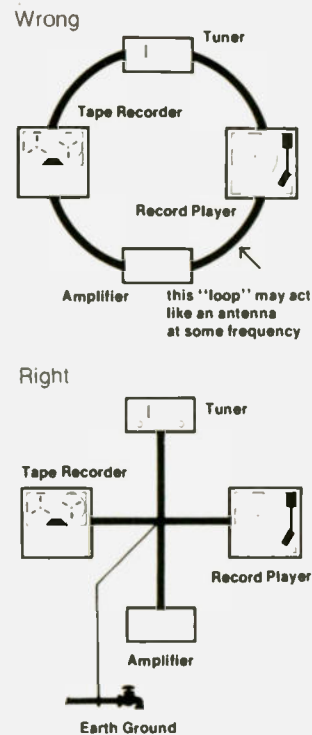

Fig. 13.
1. All grounding should be to a good earth ground such as a metallic cold water pipe or 8' ground rod. Ground leads should be as short as possible. Remember, a dc ground may appear as an open circuit to rf energy. Ground leads should be of as large a diameter wire as practicable. Finally, grounding of the chassis, shields of speaker leads, and other external connections should be made to a common point to avoid ground loops. (Ground loops are circuits that form a dc ground, but contain rf-circulating currents.) Fig. 13 shows the correct and incorrect methods of grounding components.